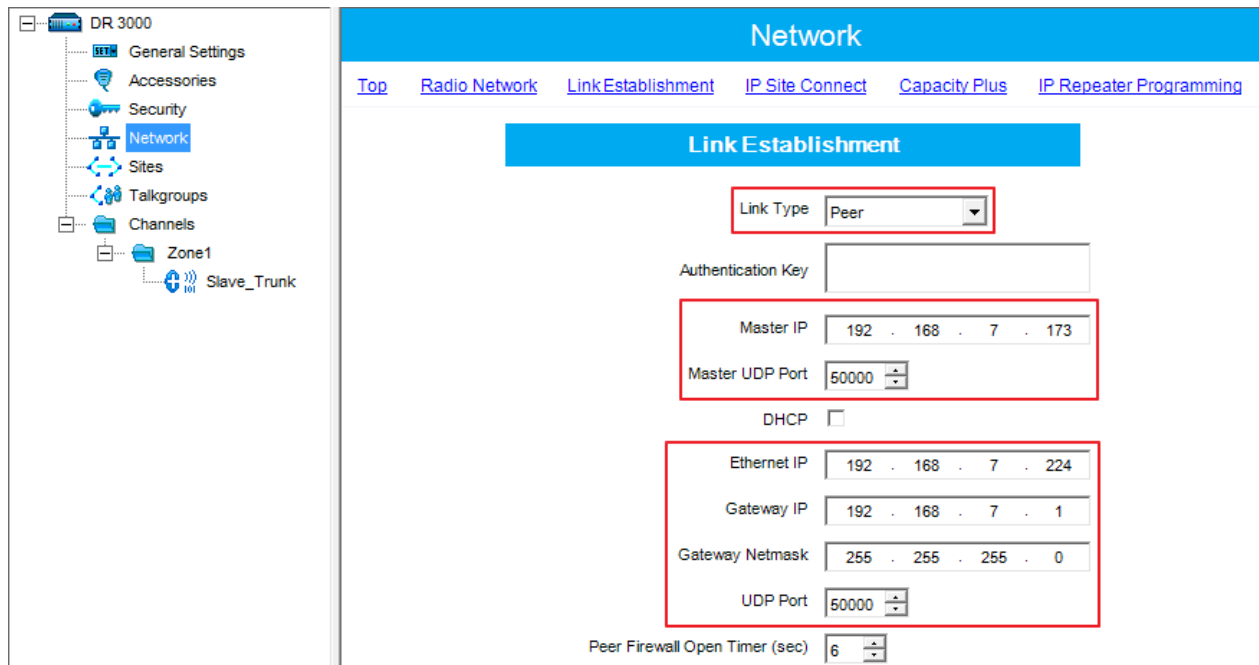

Fig. 8 - Setting Network parameters for Slave repeater
3. In the **Network** tab select *Peer* in the **Link Type** field (Fig.8).
4. Enter **Master IP** and **UDP port** (Fig.8).
5. Set **Ethernet IP**, **Gateway IP** and **Gateway Netmask** (Fig.8).